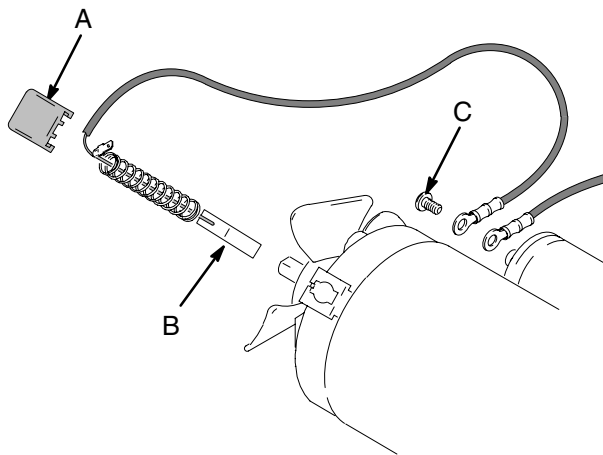

Fig. 4
6. Fig. 4. Insert brush (B). Push clip (A) until it snaps into place and secures brush.
7. Fig. 4. Install red (+) and black (–) motor leads according to tags. Install brush lead end with screw (C) to motor-mounted capacitor or route lead into control box and connect to board.